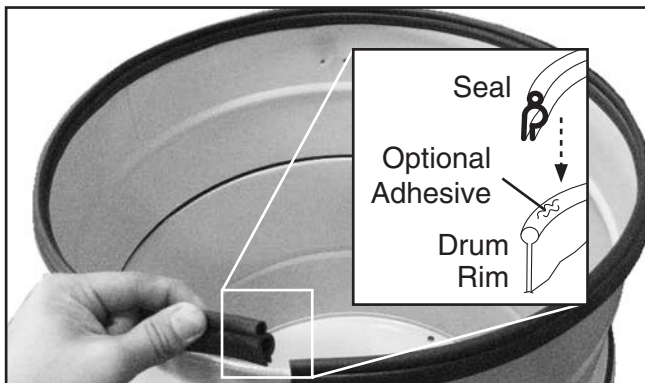

Figure 29. Installing canister seal.
18. Insert the rubber seal over the top lip of the collection drum rim. Pay special attention to the direction of the seal, as shown in the **Figure 29**.